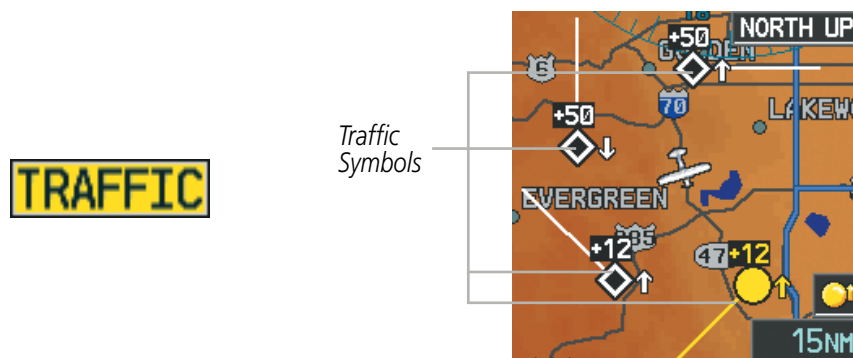

Figure 2-37 Traffic Annunciation and Inset Map with Traffic Displayed
- A flashing black-on-yellow 'TRAFFIC' annunciation (Figure 2-37) appears to the top left of the Attitude Indicator for five seconds and remains displayed until no TAs are detected in the area